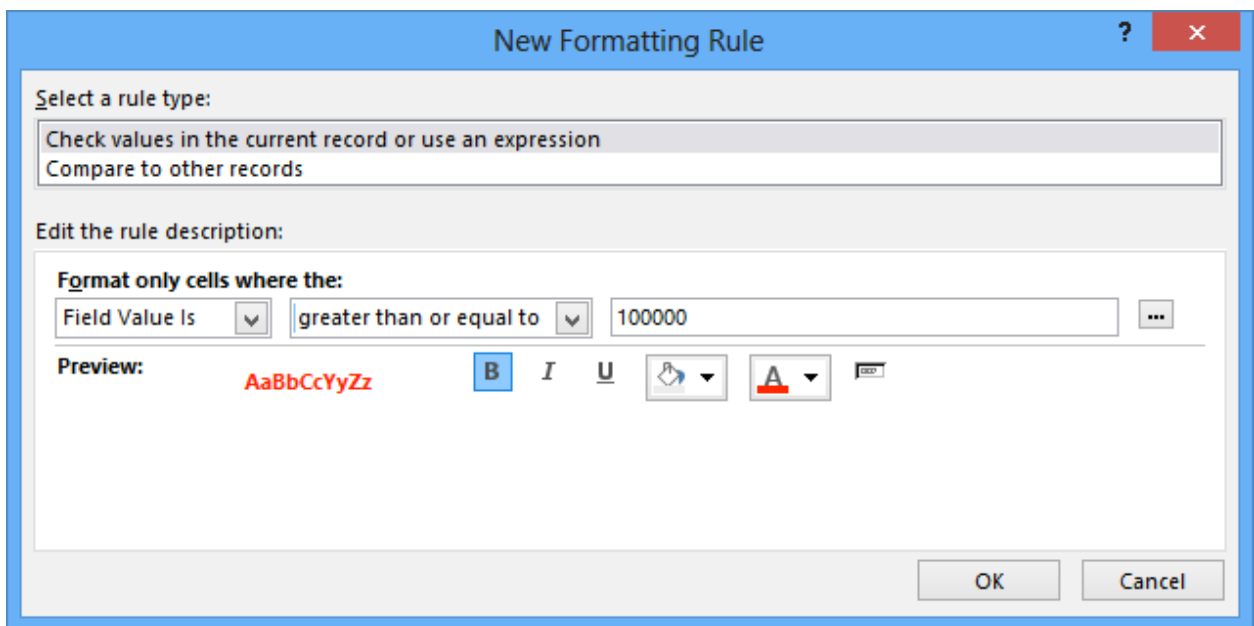

Figure 52: Setting a Condition and Formatting for a Field
2. In the bottom part of the window, make a condition as shown in Figure 52. The select the font color of red and bold formatting as shown in Figure 52. The condition in Figure 52 can be interpreted as “when the odometer reading is greater than or equal to 100,000 (miles), then highlight the value in bold font with red color text.”